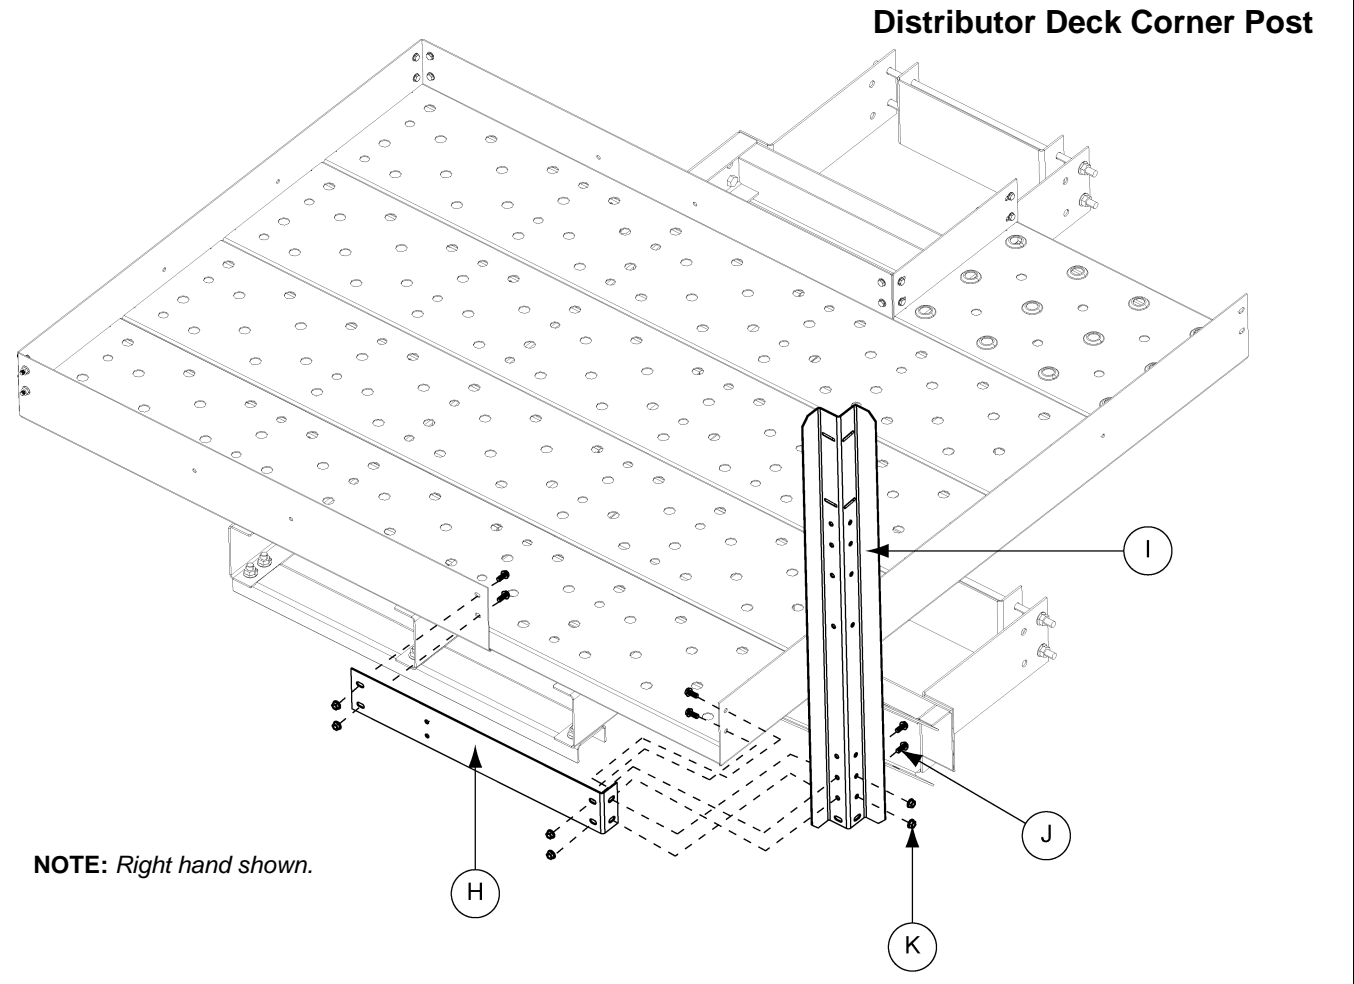

Figure 12G Distributor Platform Corner Post
4. Align flange of end toe board along the bottom of decking. Connect end toe board to decking using 1/2" x 1" bolts and nuts (S-8506) (D). *(See Figure 12G on Page 100.)*
5. Install the corner "W" post at the same time as the toe board filler plate (GSB30142X) (H). Attach toe board filler plate (GSB30142X) (H) to the decking toe boards located across from the entrance. Attach the flat end first using two (2) 5/16" x 3/4" flange bolts (S-6606) (J) and nuts (S-3611) (K). Then line up the holes of the toe board filler plate (GSB30142X) (H) with the decking toe board, while also aligning the holes of the "W" post on the corner. Fasten all three (3) together with four (4) 5/16" x 3/4" flange bolts (S-6606) (J) and nuts (S-3611) (K). *(See Figure 12G on Page 100.)*